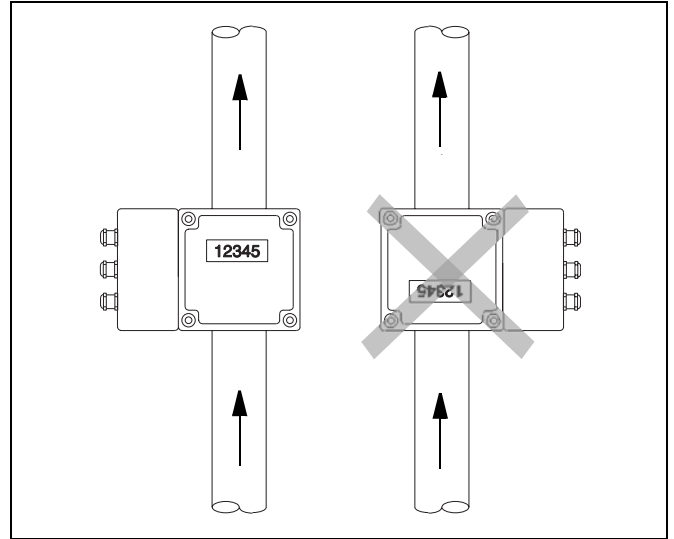

Fig. 4
- b) **vertical** pipelines the cable connectors (for the interconnections) must **point to the left** as viewed by the operator (Fig. 4).
Vertical installations are ideal when the fluid flows in an upward direction. Installations in drop lines, i.e., the fluid flows from the top to the bottom are to be avoided because experience has shown that it is not possible to guarantee that the pipeline will remain 100% full and that an equilibrium condition between the upward flowing gas and the downward flowing fluid will not occur (Fig. 4). For vertical installations the cable connectors should point to the left (as viewed by the operator) otherwise the clockwise rotated display will be upside down.